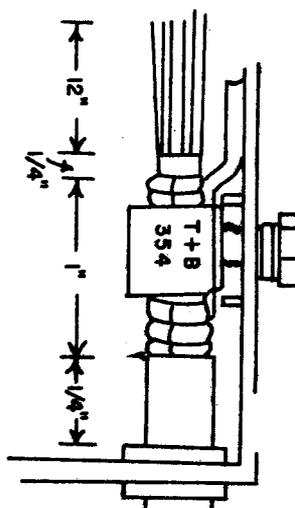

FIGURE 11
- 7.33 Slip the T & B Lug It 354 Connector over the conductors and down onto the shield insuring that the connector is positioned as shown in Figure 11. If no ground wire is to be terminated on the Ground Terminal, slip the washer on the bolt (removed from the Ground Terminal originally), insert the bolt thru the Ground Terminal hole and screw the bolt into the hole in the T & B Lug It on the shield of the BDW. See Figure 11.